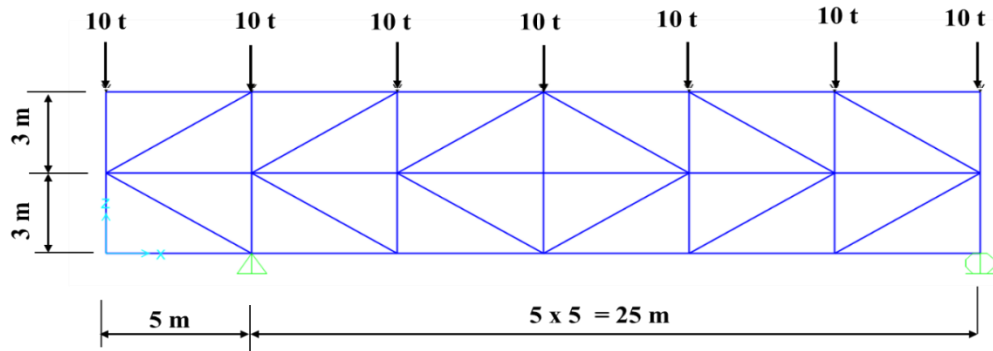

Figure 2. Steel truss project
2. Briefly describe how to use SAP 2000 to analyze and the check design of cross-sections of the following steel truss shown in Figure 2. All members are a double angle back-to-back (70 x 7 mm), use steel 52: $F_y = 3600 \text{ kg/cm}^2$, $F_u = 5200 \text{ kg/cm}^2$. (Neglect self-weight of members). (8 marks)